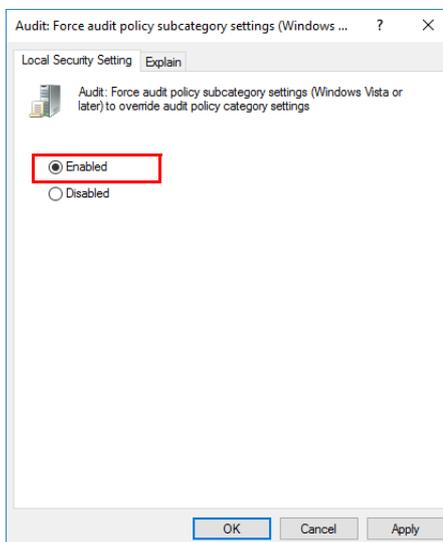

Figure 2-62. Properties setting dialog with Enabled option
9. To activate the changes in the Windows log, navigate to Computer Configuration > Windows Settings > Security Settings > Local Policies > Security Options and change the value from *Not Defined* to *Enabled*. To do so, right-click the subcategory items and select **Properties** from the shortcut menu. The Properties setting dialog opens, see Figure 2-62.